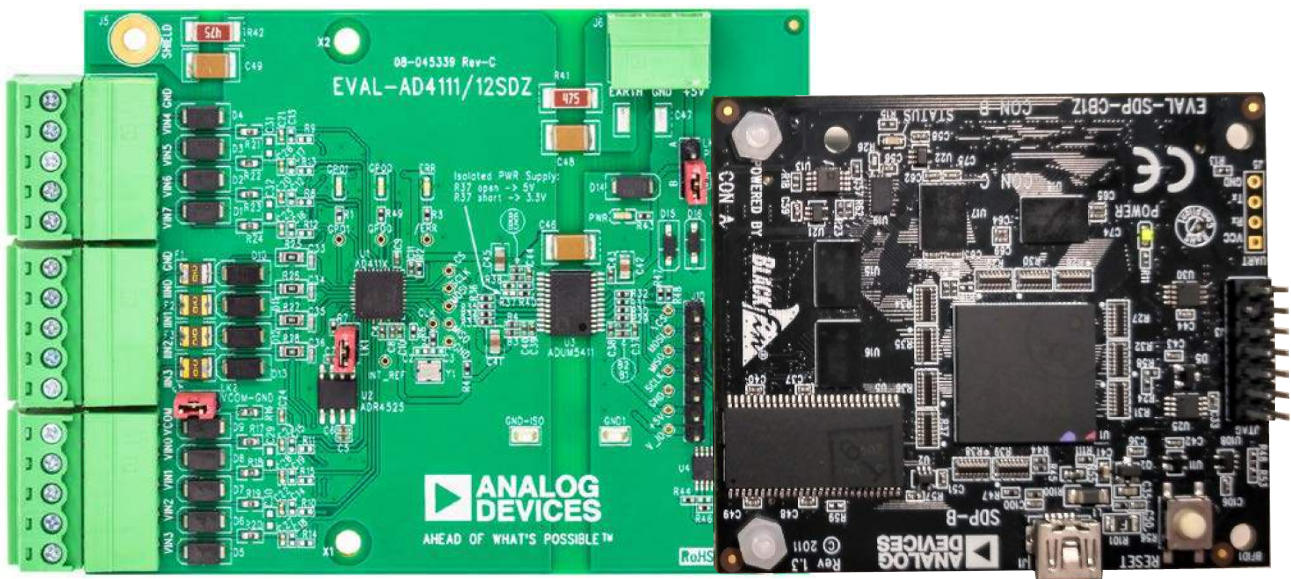

Figure 3. Hardware Configuration
2. Connect the **SDP-B** board to the EVAL-AD4112SDZ board, as shown in Figure 3.